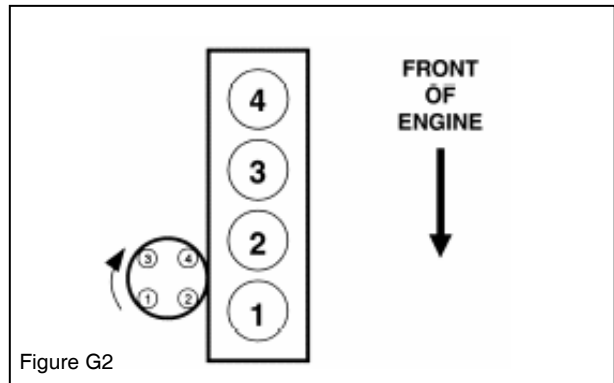

Figure G2
2. Remove the distributor rotor cap and verify that the distributor rotor is lined up with number 1 cylinder on the distributor cap (Figure G2).